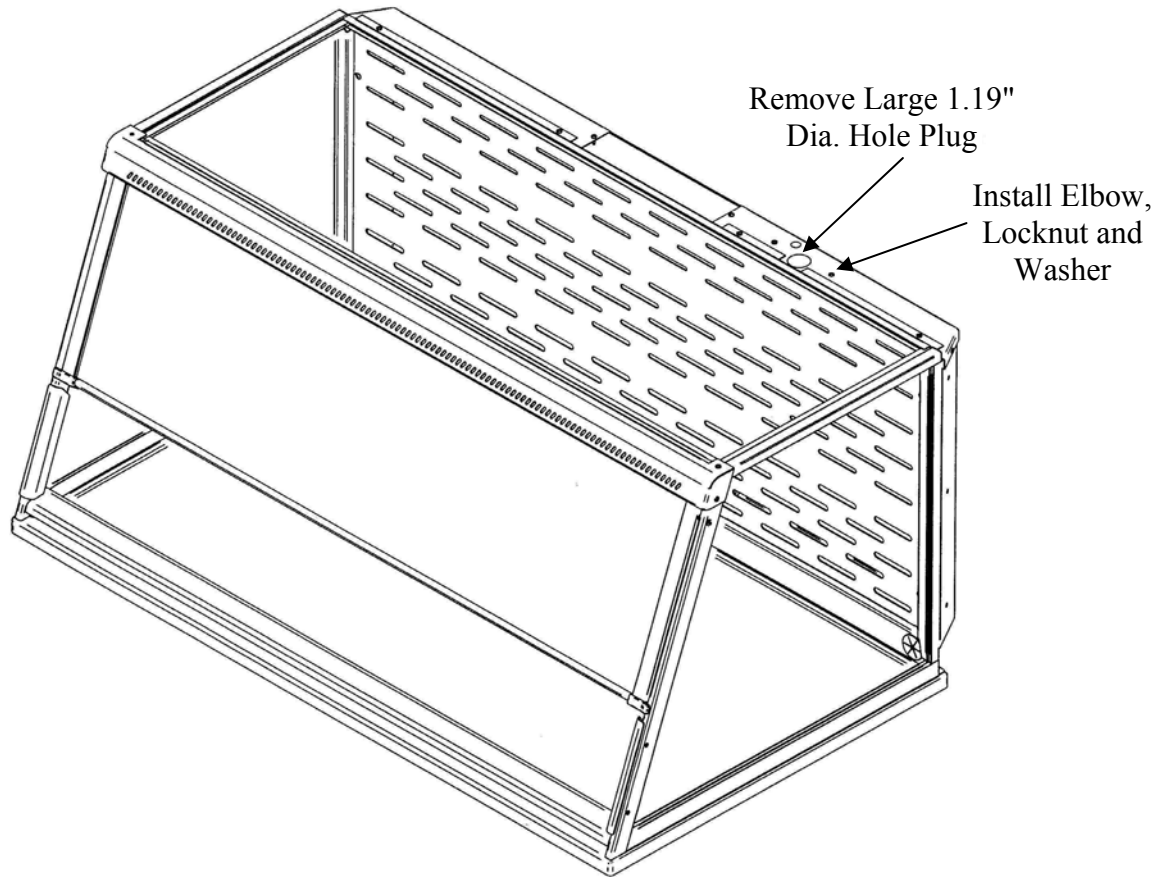
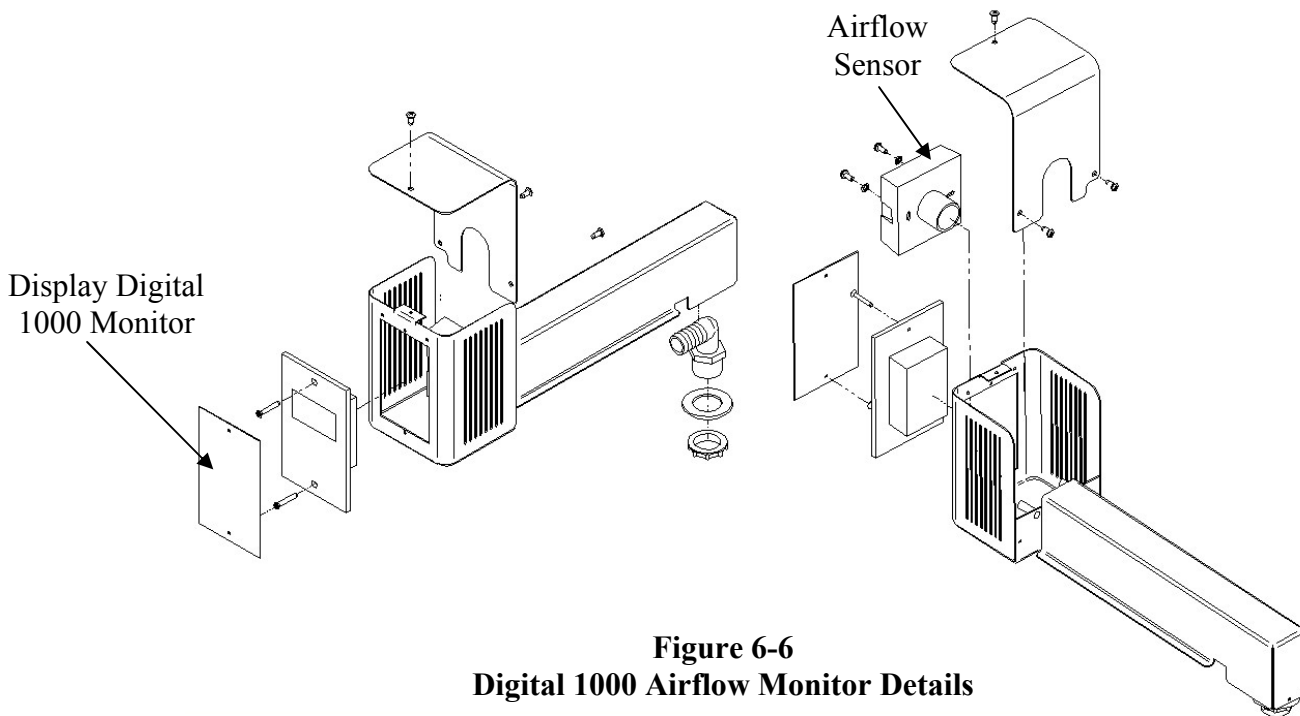

Figure 6-5
Figure 6-6
2. First remove the large 1.19" dia. gray hole plug. See Figure 6-5. See Figure 6-6 only to reference internal assembly of the airflow monitor. Locate the elbow, locknut, and washer and install it in the 1.19" dia. hole per Figure 6-5 and Figure 6-6. The enclosure baffle pivots down to install the elbow, washer and locknut.
5. Locate the metal hose cover and install with double stick tape per Figure 6-6.